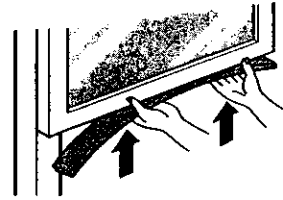

Figure 74
2. Cut the adhesive-backed seal strip (ITEM E) to the window width. Remove the backing from the seal strip and attach the seal strip to the underside of the bottom window. (See Figure 74)